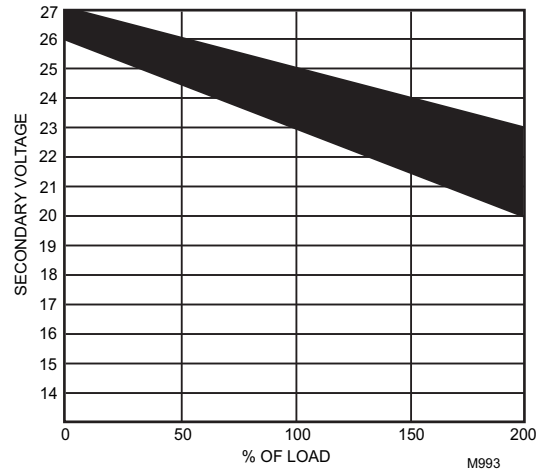

Fig. 8. NEMA Class 2 transformer voltage output limits.
This means that four volts are going to be lost between the transformer and the controller. To assure the controller receives at least 20 volts, the transformer must output more than 24 volts. Because all transformer output voltage levels depend on the size of the connected load, a larger transformer outputs a higher voltage than a smaller one for a given load. Fig. 8 shows this voltage load dependence.
In the preceding I x R loss example, even though the controller load is only 37 VA, a standard 40 VA transformer is not sufficient due to the line-loss. Looking at Fig. 8, a 40 VA transformer is just under 100 percent loaded (for the 37 VA controller) and has a secondary voltage of 22.9 volts. (Use the lower edge of the shaded zone in Fig. 8 that represents the worst case conditions.) When the I x R loss of four volts is subtracted, only 18.9 volts reaches the controller. This is not enough voltage for proper operation.
1. Use a larger transformer. For example, if an 80 VA model is used, an output of 24.4 volts, minus the four volt line-loss, supplies 20.4V to the controller (see Fig. 8). Although acceptable, the four-volt line-loss in this example is higher than recommended.
To meet the National Electrical Manufacturers Association (NEMA) standards, a transformer must stay within the NEMA limits. The chart in Fig. 8 shows the required limits at various loads.